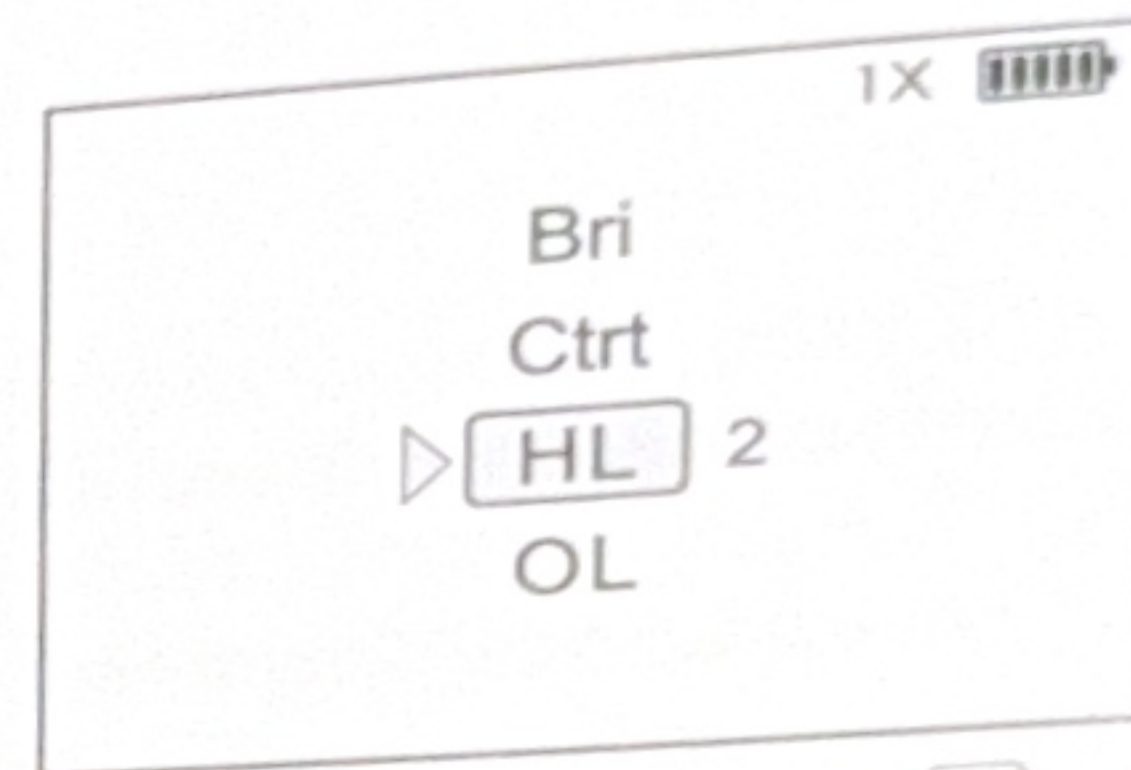

Fig 11
c. Highlight (HL) Intensity: From the IMG menu, press the  $\nabla$  button to enter the HL function. Click the  $\square$  button to adjust HL intensity. Press the  $\Delta$  and  $\nabla$  buttons to adjust HL intensity from 1 to 5. After selecting your HL setting, press and hold the  $\square$  button to return to the previous menu. (See Figure 11)